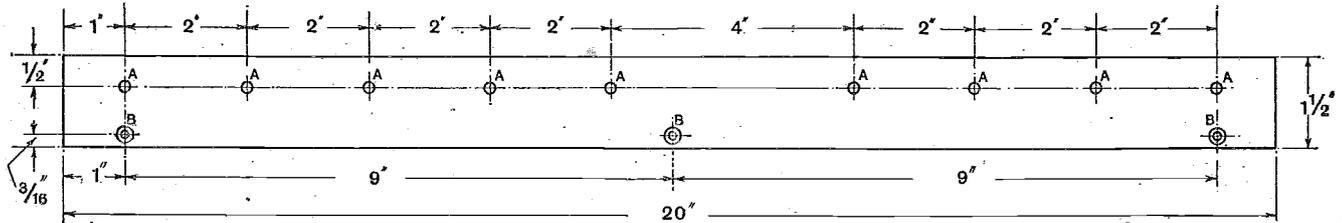

Fig. 3.—Details of terminal strip: A = drill  $\frac{3}{16}$  in. dia.; B = drill  $\frac{1}{4}$  in. dia.
**T**HE front panel is of ebonite, measuring 3oin.  $\times$  Sin  $\times$   $\frac{5}{16}$  in., and mounted on it are the two tuning condensers, the vario-coupler, four filament resistances, the potentiometer, the adjustable high resistance, four terminals (two for the frame aerial or tuner and two for the telephones), and a Clix socket and plug. These are arranged as indicated by the photographs and the drawing of the front panel of Fig. 3 (page 112, *Wireless World*, March 4th).